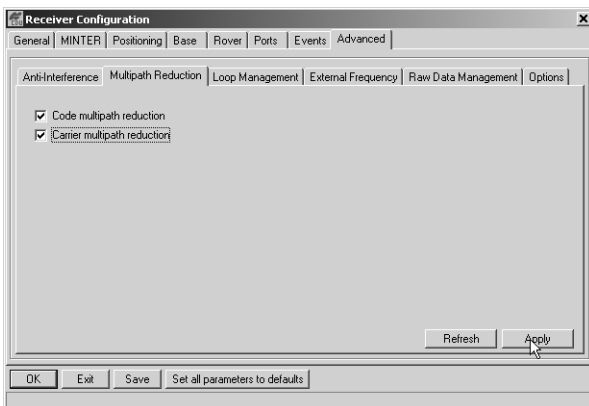

Figure 3-3. Advanced->Multipath
3. Click the **Advanced** tab and then the **Multipath** tab, set the following parameters, then click **Apply** (Figure 3-3):